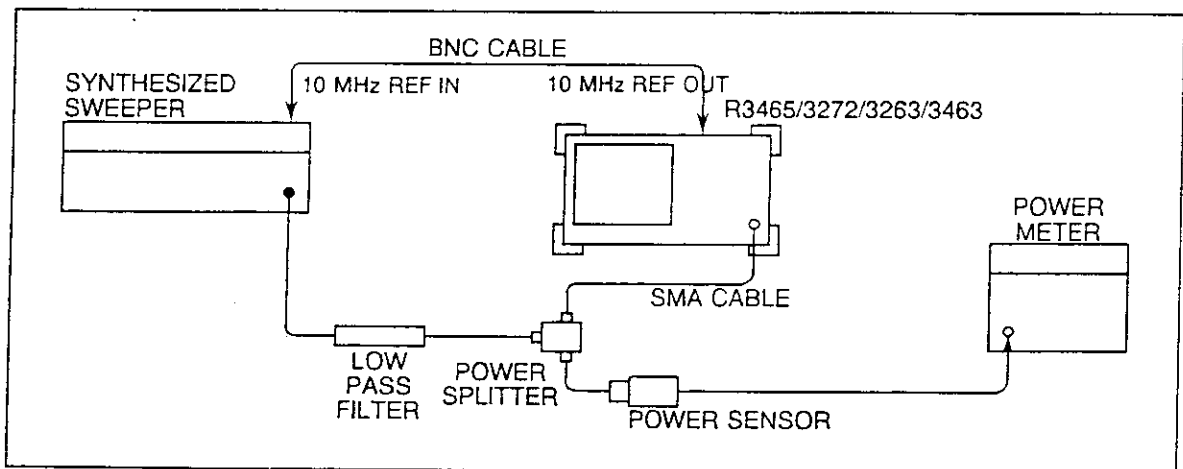

Figure 1-10 Second Harmonic Distortion Test Setup
(1) Zero and calibrate the power meter. Rotate the CAL FACTOR switch to the power sensor's 1.4 GHz calibration factor.
(2) Connect the equipment as shown in Figure 1-10.
(3) Press the INSTR PRESET key on the SG1. Set the SG1 controls as follows:
(13) Connect the equipment as shown in Figure 1-10.
(14) Rotate the CAL FACTOR switch to the power sensor's 1.9 GHz calibration factor.
(15) Set the SG1 key for a 0 dBm \pm 0.1 dB reading on the power meter.
(16) On the R3465/3272, press , , , and keys.